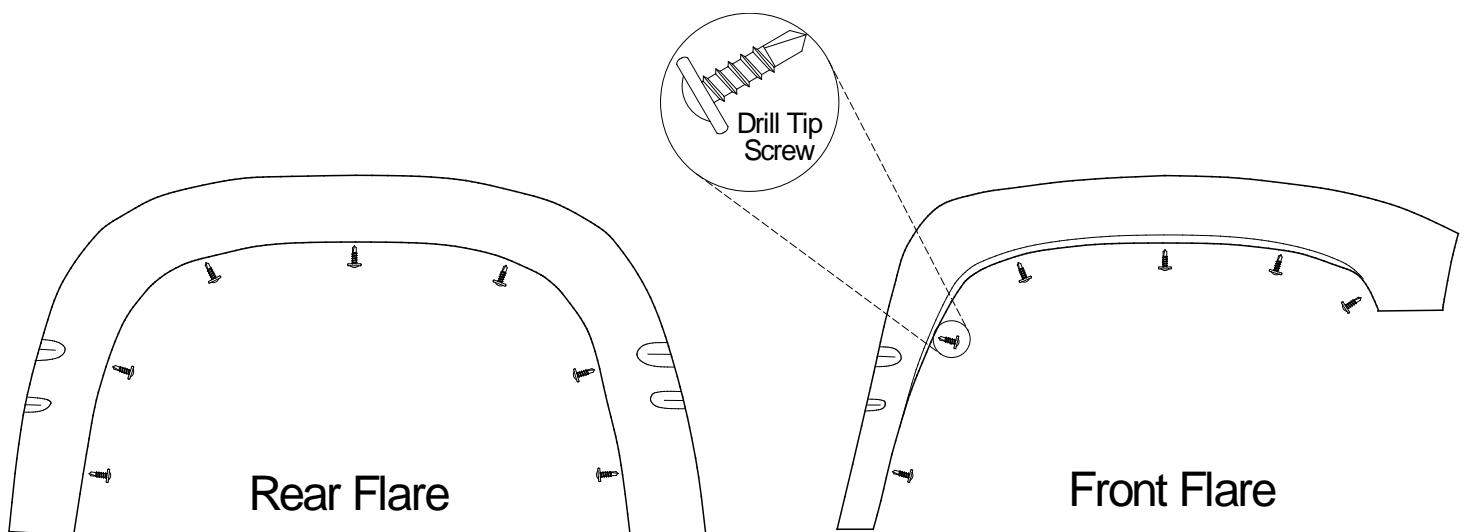

FIGURE 3
- (A) Drill all flares with a 3/16" drill bit using the indents formed into the flare as a guide.
- (B) Applying moderate pressure to the outside surface of the flares, fasten to the sheet metal with drill tip screws, using the holes in the flares as a guide. **See FIGURE 3.**